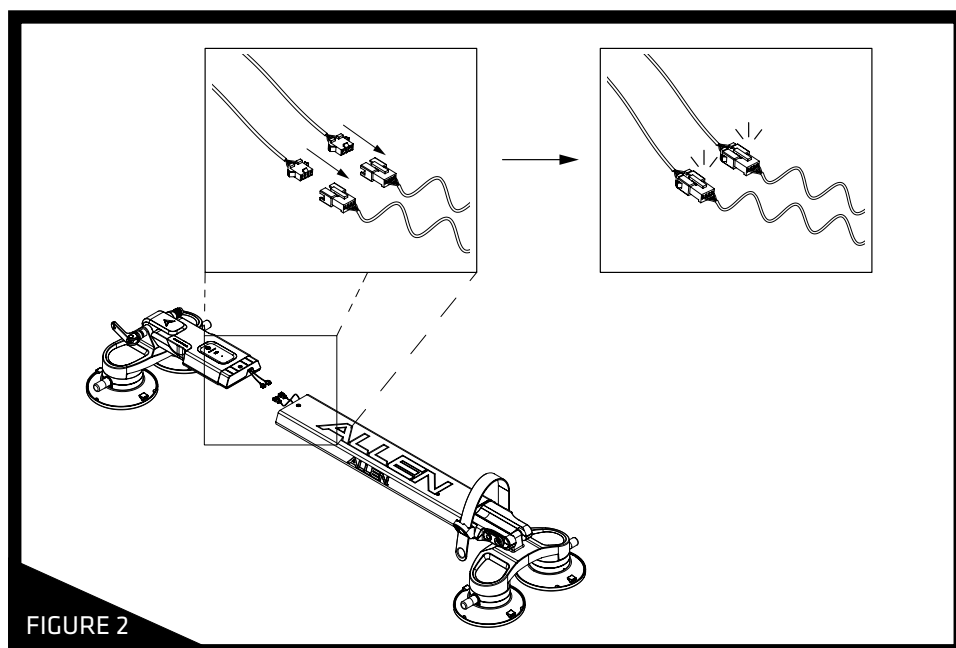

FIGURE 2
**STEP 2:** Attach the male and female wire connectors as shown in **Figure 2**. There should be an audible **CLICK** when the cables are properly attached.